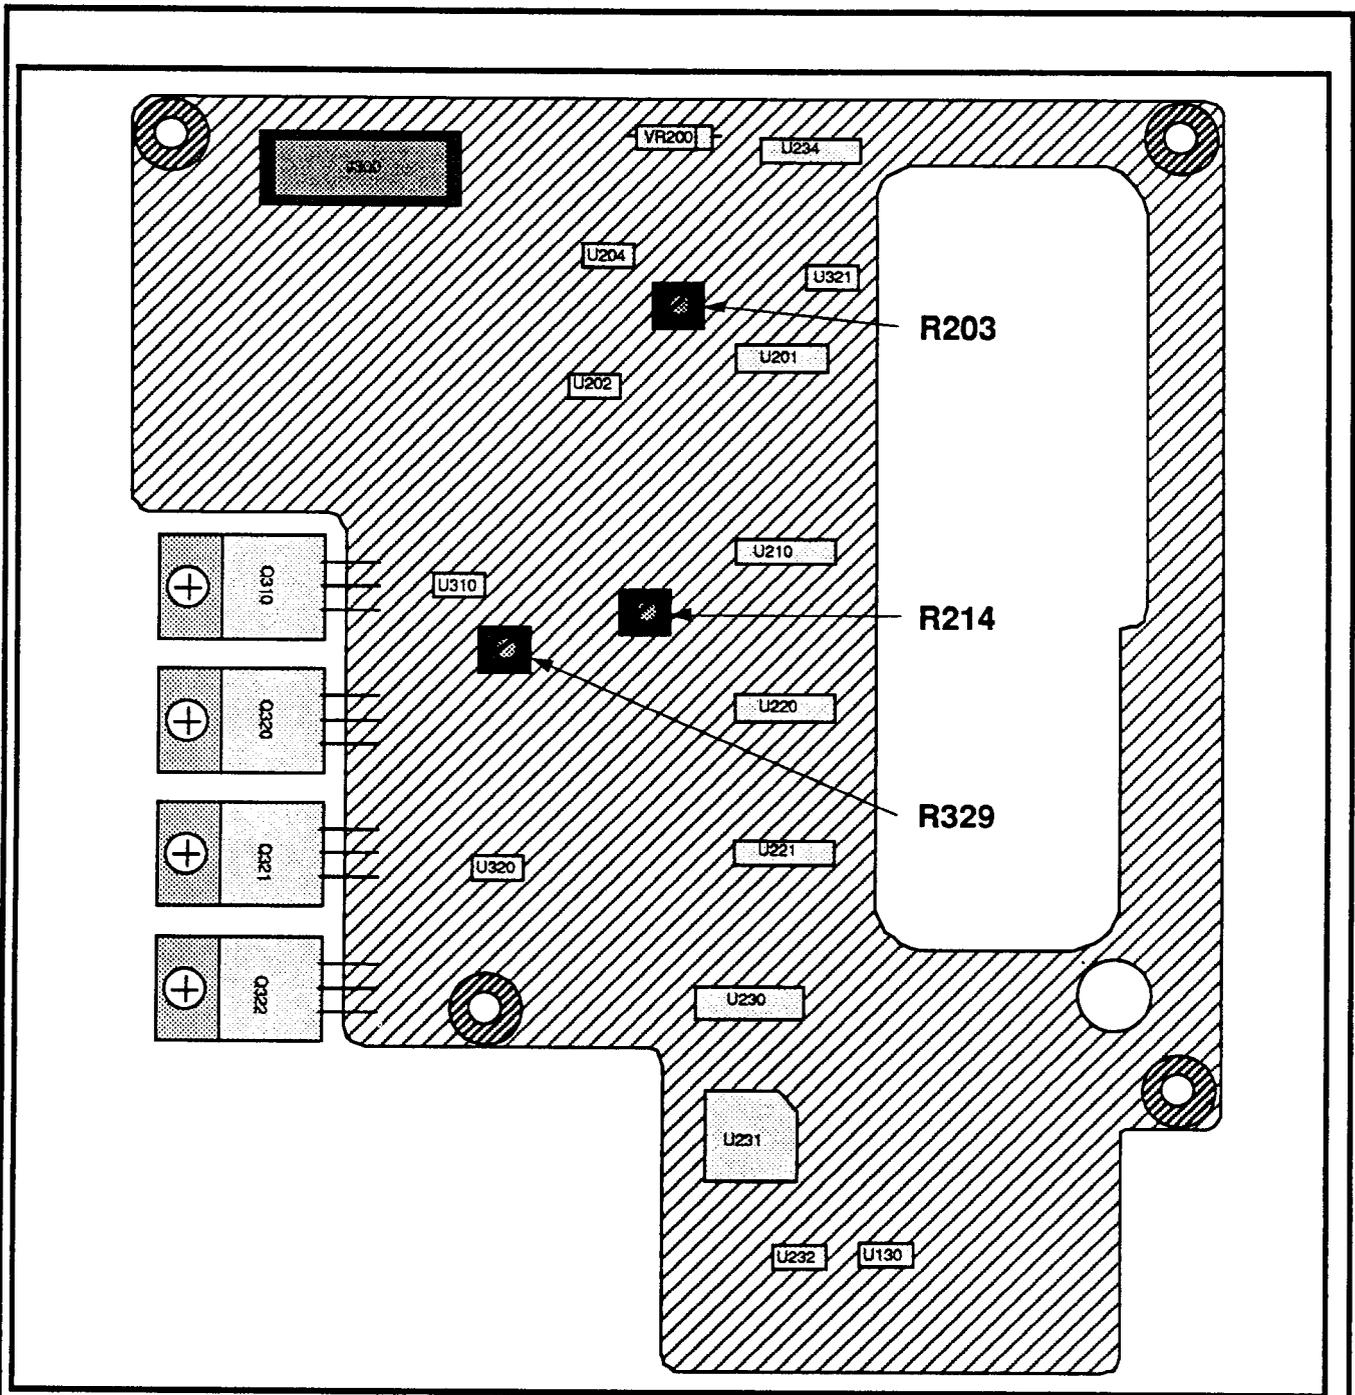

Figure 18. Adjustment locations on the Interface board.
g. Set R329 (Figure 18) on the Interface board for a signal near mid-screen.
h. Adjust R203 and R214 (Figure 18) on the Interface board for the flattest possible display.
j. Adjust R329 (Figure 18) on the Interface board for 0 dBm at 100 MHz (marker position). (0 dBm is center screen.)